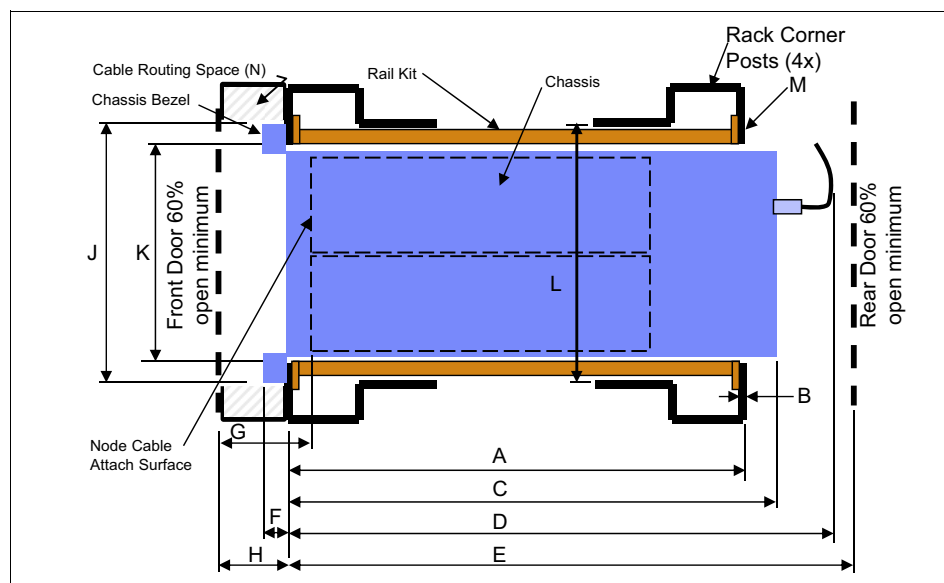

Figure 5-10 Dimensions for mounting the n1200 Enclosure rails and brackets (top view)
- As shown in Figure 5-10, a recirculation plate is used to prevent warm air that is entering from the rear of the rack from passing under the rack and into the front of the servers. This plate is not required if the stabilizer bracket is installed.